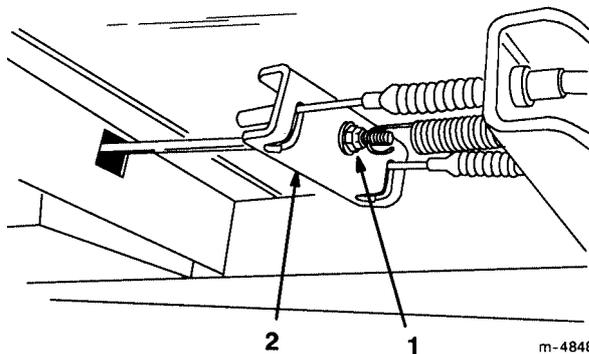

Figure 28
3. Tighten the cable adjusting screw, located beneath the floor panel, until the cables are snug in the brake equalizer (Fig. 28).